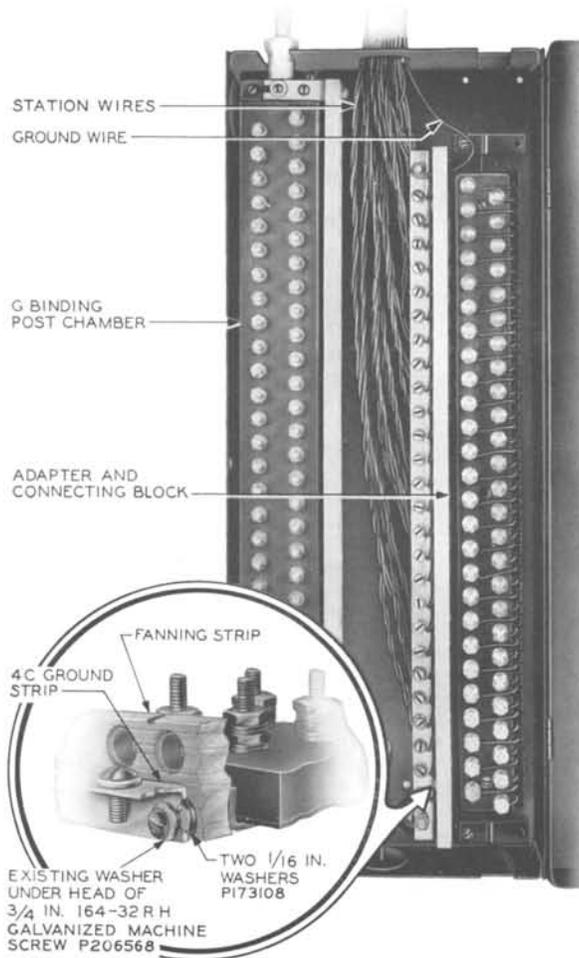

FIG. 6—TERMINATION OF GS-TYPE INSIDE WIRE
- The method of terminating GS-type inside wire at a GC-type cable terminal is shown in Fig. 6.
**5.06** The 4-type ground strips are installed on the fanning strips of the 102-type adapters and G-type binding post chambers as shown in Fig. 11. The 4-type ground strip is attached with the same screws used to secure the fanning strip to the 102-type adapter or G-type binding post chamber, except where additional clearance is desired, as shown in Fig. 6.